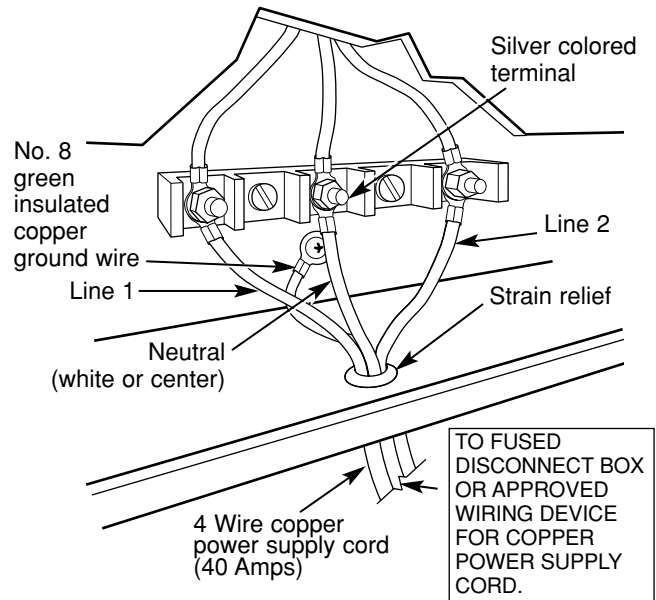

FIGURE 2
- C. Connect the ground wire (green) of the copper power supply cord to the frame of the appliance. Insert the ground screw into the power cord ground wire terminal ring and into the frame of the range. See Figure 2.